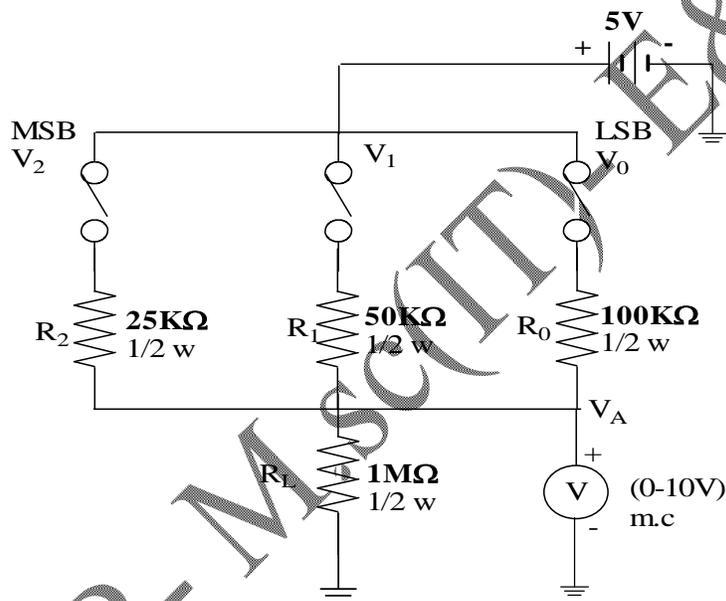

Figure.4 Practical Circuit for 3-Bit D/A Converter
1. Give connection as per the circuit diagram shown in Figure.4